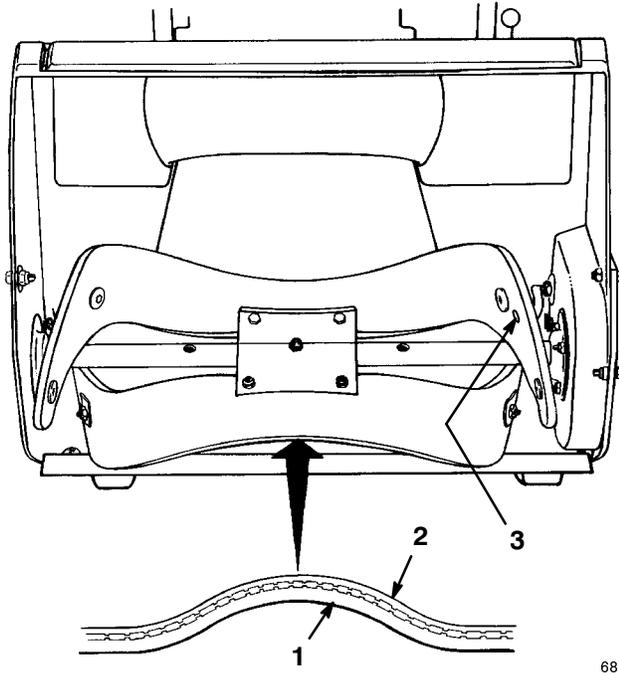

Figure 15
1. Examine a new rotor blade edge for the difference in layer thickness (Fig. 15). Some rotor blades have a part number on the thick side of the blade.
Install the rotor blades with the thick layer on the **inside** of the curve. (Fig. 15). If you do not install the blades properly, the blades may be out of balance and cause the snowthrower to “hop” or “bounce.”
4. Position the bolt heads on the thick layer (bottom) side of the blade (Fig. 15).